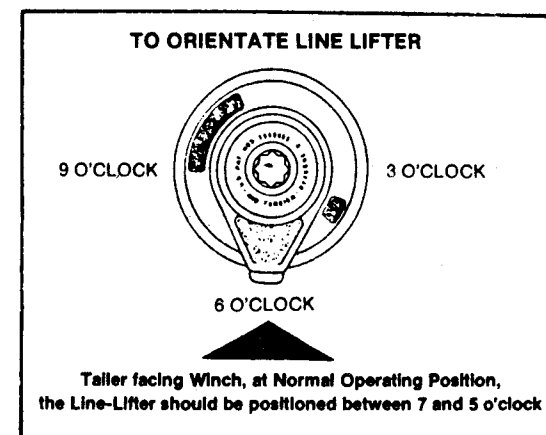

Fig. 1.
4. Install the drum assy. with the line lifter in suitable sheeting position over the gearbox assy. (see fig. 1).
5. Replace the retaining nut (18) and tighten firmly.